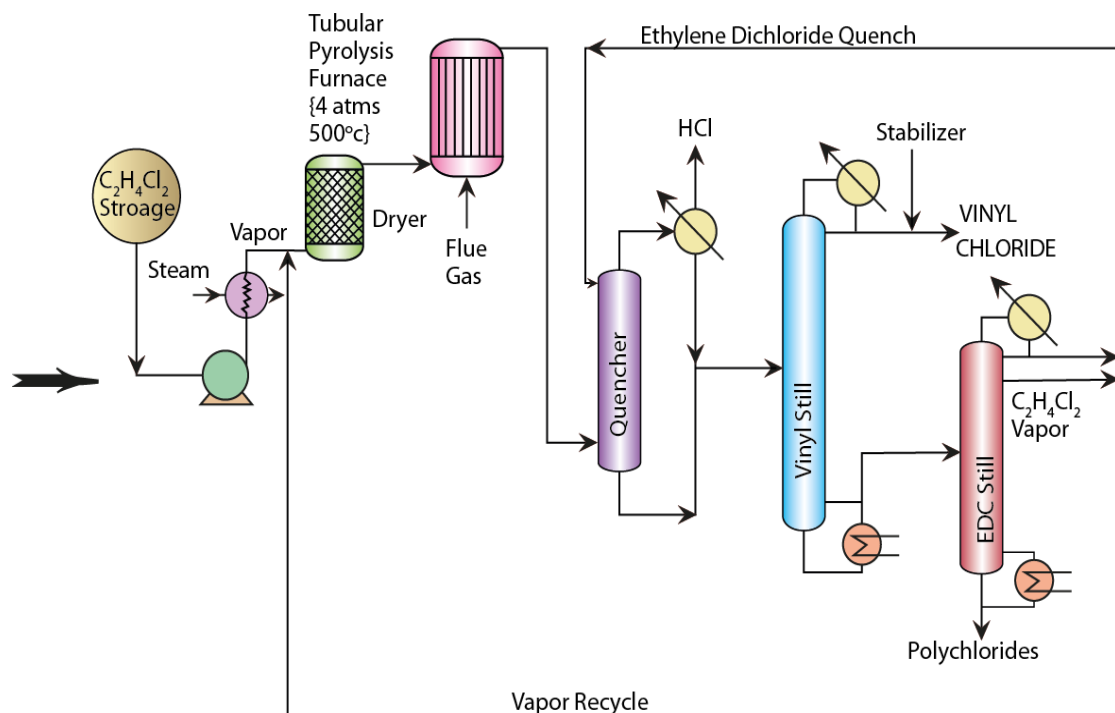

Figure 16.2 Flow sheet of production of vinyl chloride
16.2.2 Process Technology (Figure 16.2)